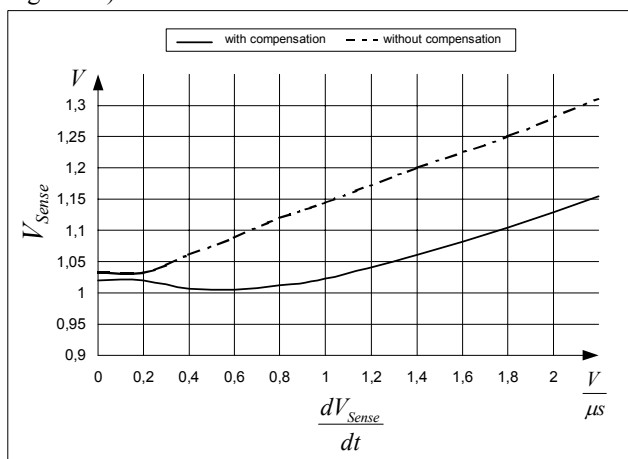

Figure 12 Overcurrent Shutdown
E.g. $I_{\text{peak}} = 0.5\text{A}$ with $R_{\text{Sense}} = 2$. Without Propagation Delay Compensation the current sense threshold is set to a static voltage level $V_{\text{csth}} = 1\text{V}$. A current ramp of $dI/dt = 0.4\text{A}/\mu\text{s}$, that means $dV_{\text{Sense}}/dt = 0.8\text{V}/\mu\text{s}$, and a propagation delay time of i.e. $t_{\text{Propagation Delay}} = 180\text{ns}$ leads then to an I_{peak} overshoot of 14.4%. By means of propagation delay compensation the overshoot is only about 2% (see Figure 12).